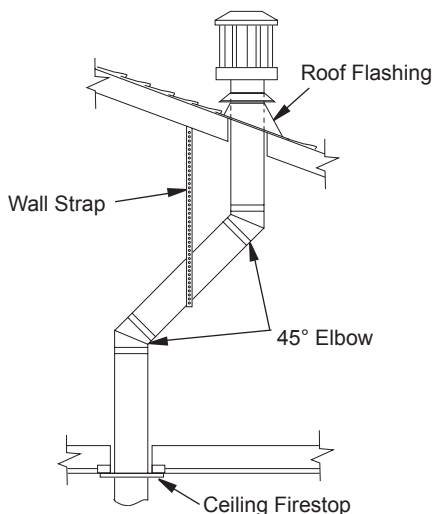

Figure 17 - Offset with Wall Strap and 45° Elbows
1. Determine route your vertical venting will take. If ceiling joists, roof rafters or other framing will obstruct venting system, consider an offset (see Figure 17) to avoid cutting load bearing members. **Note:** *Pay special attention to these installation instructions for required clearances (air space) to combustibles when passing through ceilings, walls, roofs, enclosures, attic rafters, etc. Do not pack air spaces with insulation. Also note maximum vertical rise of venting system and any maximum horizontal offset limitations.*
1. Cut a 11 1/2" square hole in ceiling using locating hole as a center point. Opening should be framed to 11 1/2" x 11 1/2" inside dimensions, as shown in Figure 10 on page 11 using framing lumber the same size as ceiling joists. If area above ceiling is an insulated ceiling or an attic, nail firestop from top side. This prevents loose insulation from falling into required clearance space. If area above ceiling is a living space, install firestop below framed hole. Firestop should be installed with no less than three nails per side (see Figure 17).
Note: *If an offset is needed to avoid obstructions, you must support vent pipe every 3 feet. Use wall straps for this purpose (see Figure 17). Whenever possible, use 45° elbows instead of 90° elbows. The 45° elbow offers less restriction to the flow of flue gases.*
5. Place flashing over pipe section(s) extending through roof. Secure base of flashing to roof and framing with roofing nails. Be sure roofing material overlaps top edge of flashing as shown in Figure 17. There must be a 1" clearance from vent pipe to combustible materials.